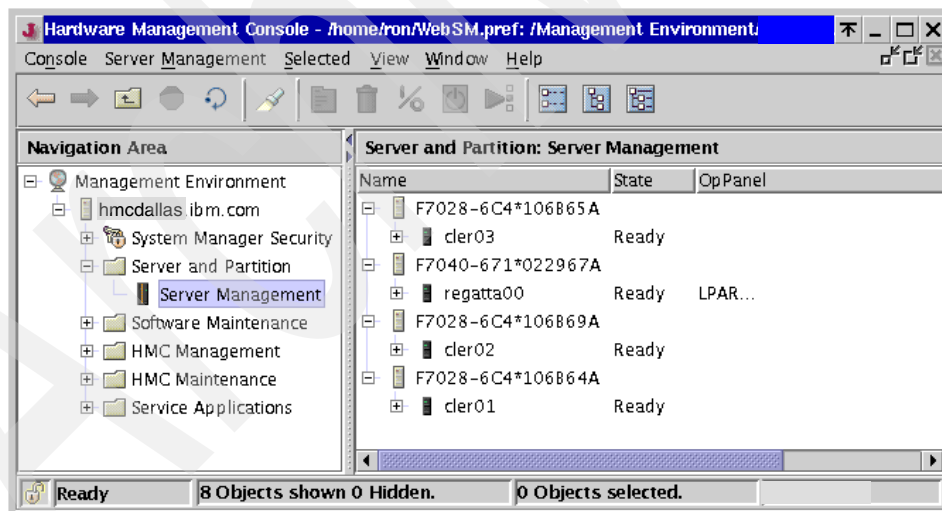

Figure 2-12 Server Management (four managed systems)⁷
- ▶ Figure 2-12 on page 44 shows four frames in the content area. The first frame contains a pSeries 670 whereas the other frames contain pSeries 630 Model 6C4 each.
⁷ The frame icon descriptions start with F, not from MT-MDL in Figure 2-12, since those systems are installed with V3.0 system firmware.